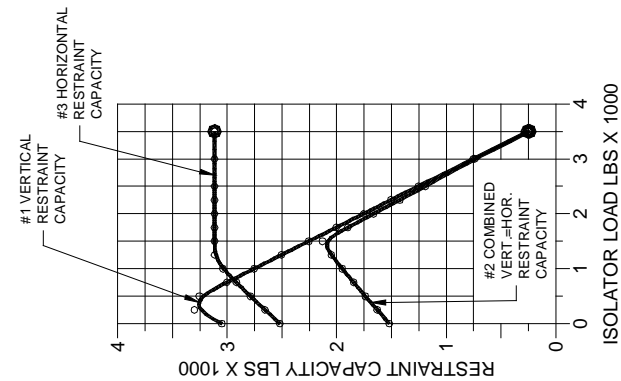
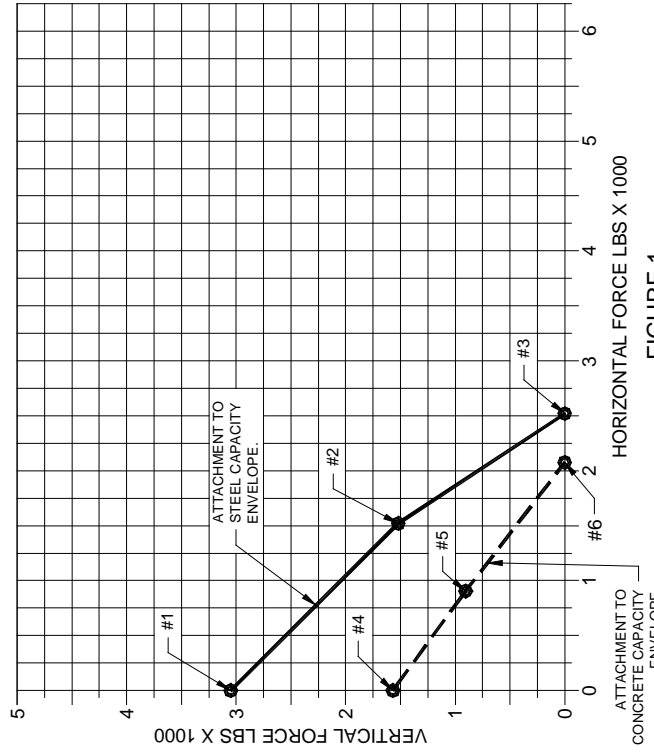
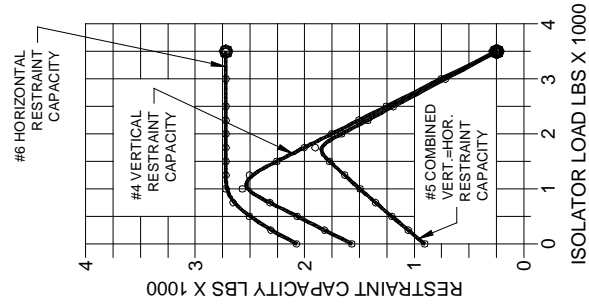

FIGURE 2
FIGURE 1
FIGURE 3
- 2.) DETERMINE WHETHER THE ATTACHMENT IS TO BE TO STEEL, OR CONCRETE, SELECT FIGURE 2, OR CONCRETE, SELECT FIGURE 3.
- 3.) THE VERTICAL RESTRAINT CAPACITY @ THE LOAD DETERMINED IN STEP 1 IS READ FROM CURVE #1 (FIG. 2) OR CURVE #4 (FIG. 3) AND PLOTTED ON THE VERTICAL AXIS OF FIGURE 1.
- 4.) THE HORIZONTAL RESTRAINT CAPACITY @ THE LOAD DETERMINED IN STEP 1 IS READ FROM CURVE #3 (FIG. 2) OR CURVE #6 (FIG. 3) AND PLOTTED ON THE HORIZONTAL AXIS OF FIGURE 1.
- 5.) THE COMBINED RESTRAINT CAPACITY IS THE POINT WHERE VERTICAL & HORIZONTAL CAPACITIES ARE EQUAL. THE COMBINED RESTRAINT CAPACITY @ THE LOAD DETERMINED IN STEP 1 IS READ FROM CURVE #2 (FIG. 2) OR CURVE #5 (FIG. 3). DRAW A HORIZONTAL LINE FROM THIS VALUE ON THE VERTICAL AXIS, AND A VERTICAL LINE FROM THIS VALUE ON THE HORIZONTAL AXIS. THE INTERSECTION POINT IS THE COMBINED CAPACITY POINT FOR THE GIVEN APPLICATION.